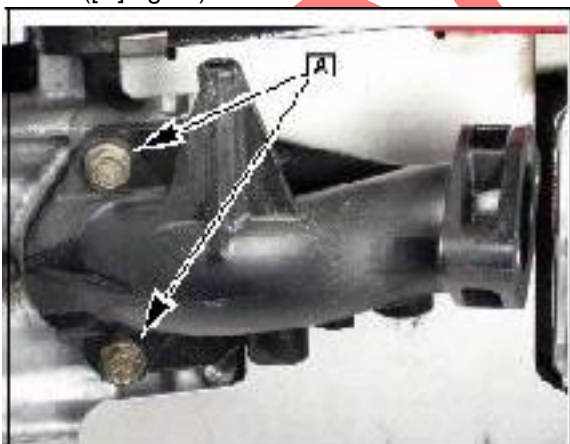

Fig. 24
10. Remove the two bolts that secure the air intake manifold to the crankcase (A) Fig. 24).